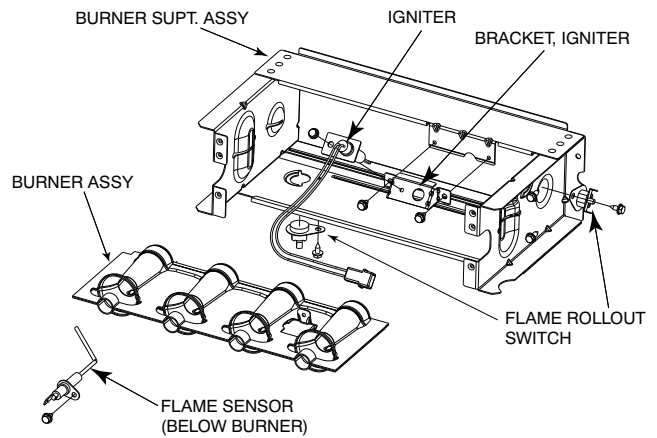

Fig. 71 - Burner Assembly
6. Remove screws attaching burner assembly to cell panel. See Fig. 71.